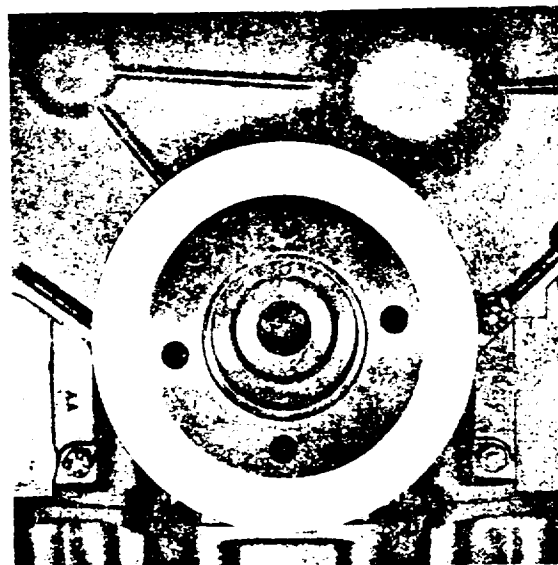

Fig. K.1.
4. Refit the crankshaft pulley ensuring that the centre punch mark on the pulley coincides with the line on the front face of the crankshaft (see Fig. K.1). Fit the retaining setscrew and washer and tighten to a torque setting of 300 lbf ft (42 kgf m) 410 Nm.